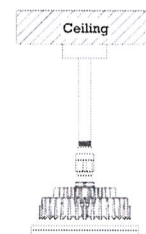

Figure 4
- ☞ The mounting type is for the use of bending tube mounting (Figure 4).